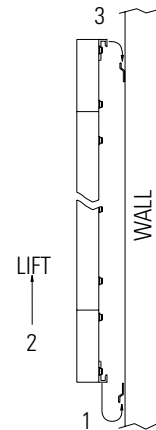

FIGURE 4
4. Attach the small wall bracket to the wall. Refer to Figure 4 for proper orientation. Do not tighten the screws completely. The bracket should slide up and down easily.
6. Hang the screen on the brackets by hooking the bottom of the frame onto the small wall bracket and lift up until you can hook the top of the frame on the top bracket. Push down on the frame to seat it on the brackets. Refer to Figure 4.